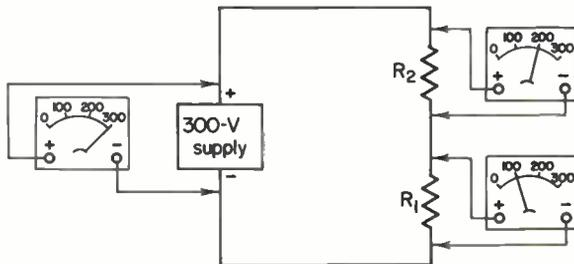

Fig. 54 The sum of the voltage drops across R_1 and R_2 equals the supply voltage.
- 50 Example 5 . . . Figure 54 shows two resistors in series across a 300-V source. Circuit voltages are indicated by the three voltmeters. Since the voltage drop across R_2 is greater than the drop across R_1 , the resistance of R_2 is (a) _____ than the resistance of R_1 . If the current through R_2 is 100 mA, the resistance of R_2 is (b) _____ ohms. The resistance of R_1 is (c) _____ ohms.